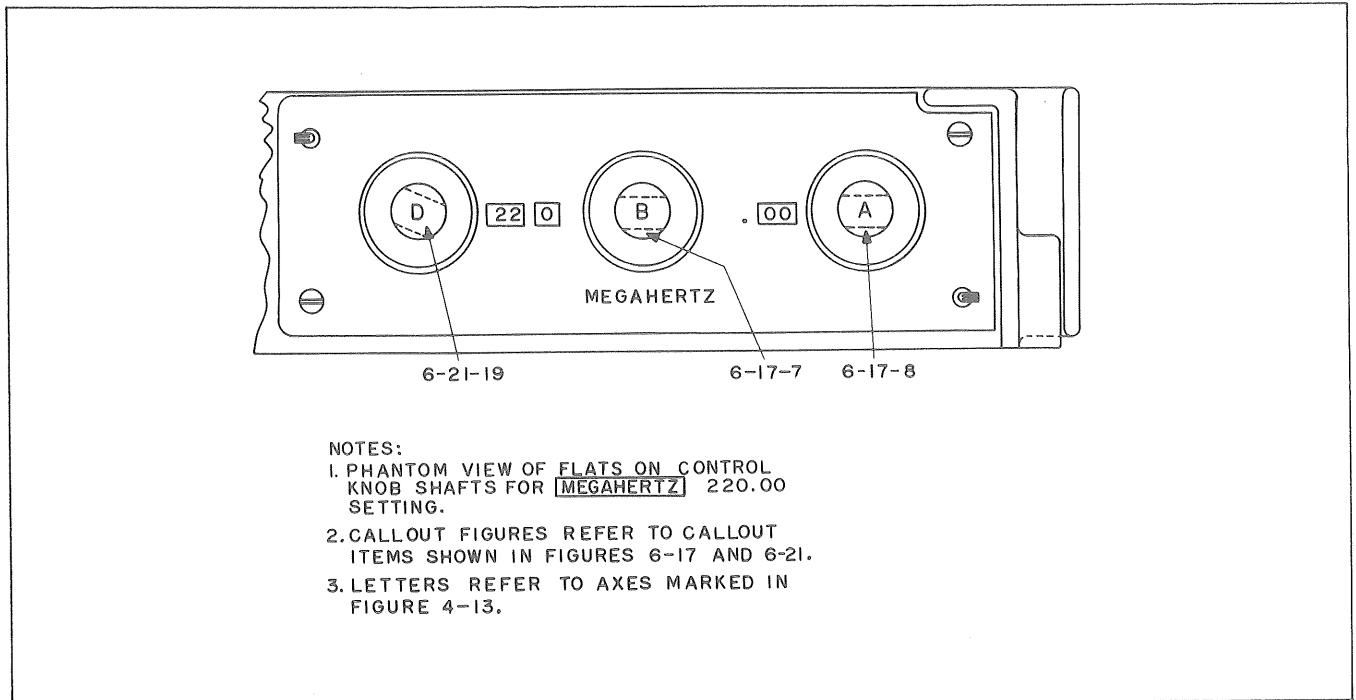

Figure 5-10. Control Knob Shaft "Flat" Orientation Diagram
- a. The orientation of the "flats" on the 0.05 MHz, 1 MHz, and 10 MHz control knob shafts must conform to Figure 5-10 for a MEGAHERTZ setting of 220.00.